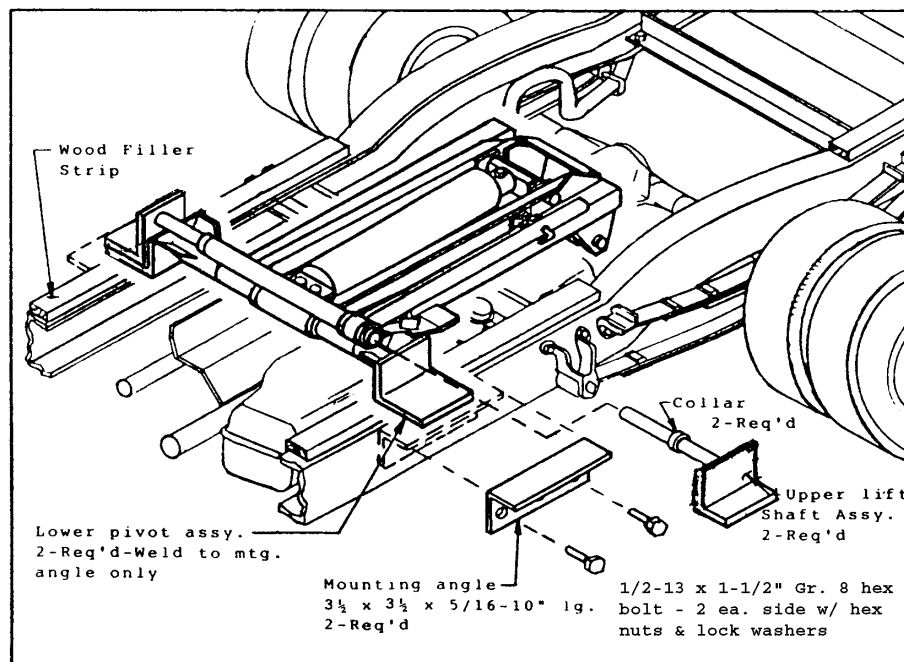

Figure 3 Mounting Angle/Lower Pivot Assembly
4. Locate the hoist on the truck frame, making sure to center and square the hoist to the truck frame. The VC-416/516 hoist is designed to rest on the truck frame as shown in Fig.3. A section of the hoist extends below the truck frame level, thus the hoist may have to be moved slightly forward or backward to avoid frame crossmembers. The distance between the rear hinge assembly center and hoist dimension. Table "A", figure 1 refers to dump angles associated with the "M" dimension.
5. After the hoist is positioned, place a mounting angle (Fig. 3) under each of the lower pivots and against the truck frame. Clamp securely in place. Drill through the mtg. angle and frame (17/32") and fasten mounting angle with two (2) 1-1/2" hex head grade 8 bolts, lock washers and hex nuts (both sides).
6. With the hoist lower pivot assys. clamed to the mounting angles (3-1/2x3-1/2x5/16-10" lg.), weld the lower pivot assy. to the mounting angles. Position and secure the filler strips (wood or steel) to the truck frame (see fig. 3) The VC416/516 hoist requires at least 5-3/4" clearance above the truck frame.